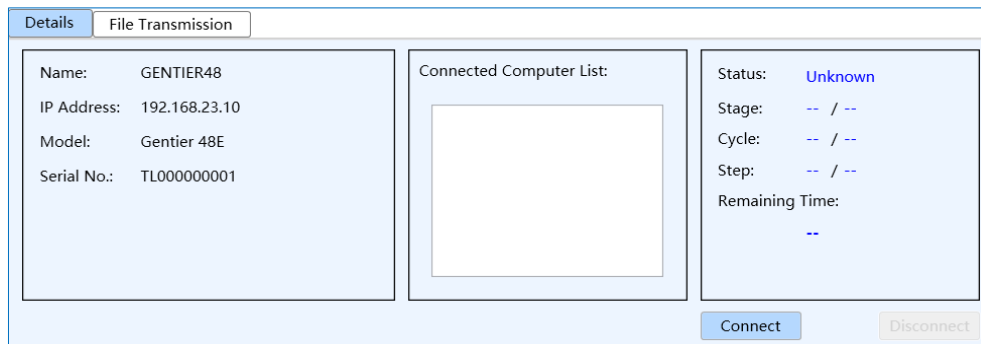

Figure D-3.2c. Instrument Management Interface - Details Tab
► **Details** tab: includes 3 information areas and two function keys, as shown in figure D-3.2c.